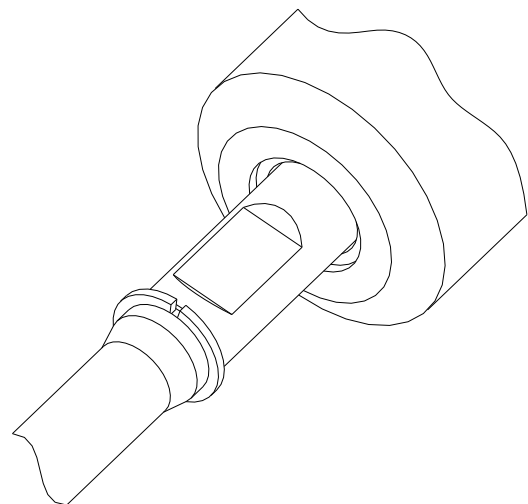

Figure 3
9. Depress the sleeve to expose the flats on the plunger. Refer to Figure 3. Put the supplied 4mm spanner (B10099) on the flats of the plunger. Using the spanner and allen key, tighten the grub screw to secure the sleeve in place.